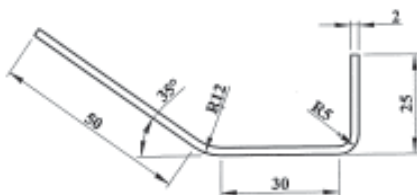

Fig: 2
- c) Calculate the develop length for bend component in fig.2. 6